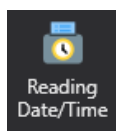

Figure 18 – Example of filling in the fields
6.2 Manually fill in the fields with the data presented in Figure 18.